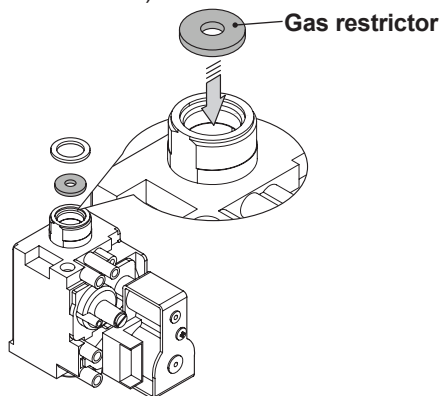

Fig. 9.2
- Carry out gas conversion by correctly replacing the gas restrictor (Fig. 9.2), referring to the "Technical Data" section (page 24 **ADVANCE 25S** and page 27 **ADVANCE 30S**).